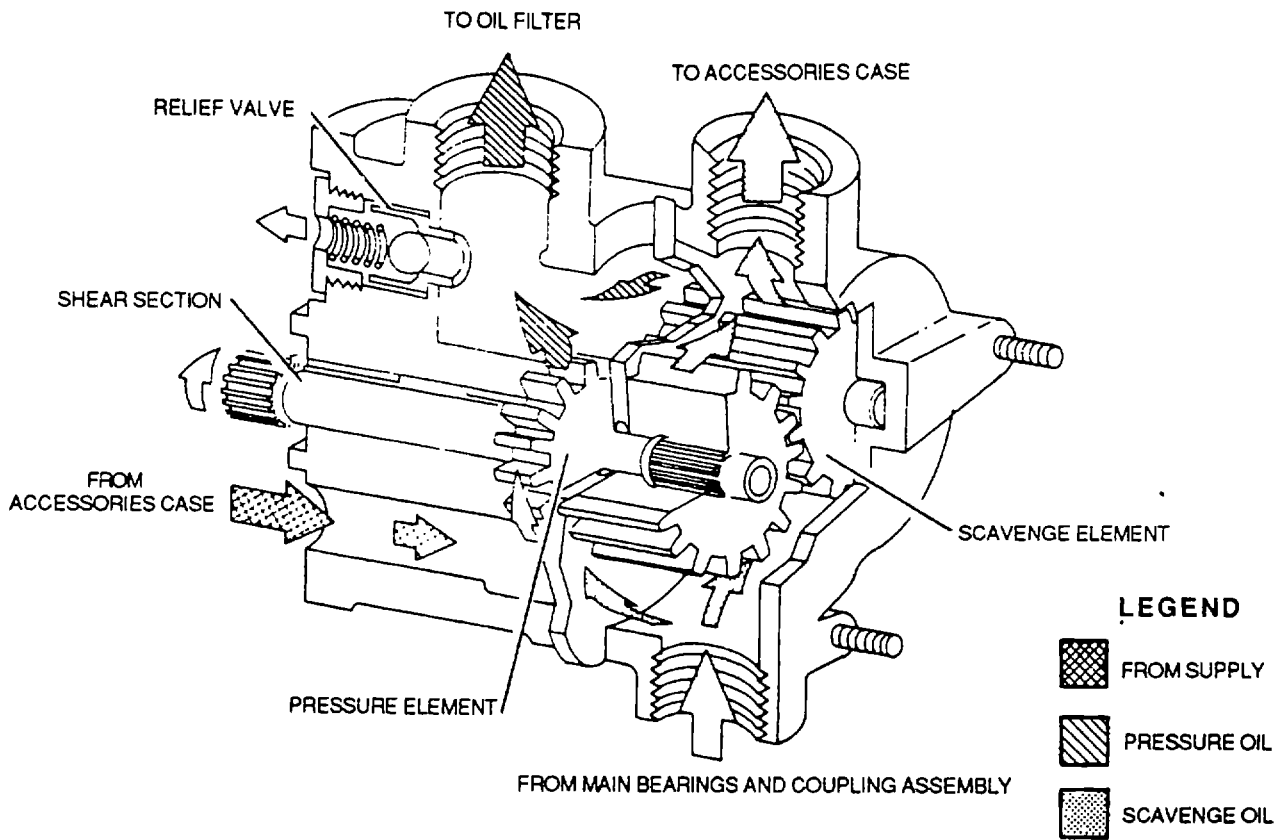

Figure 3-13. Gear-Type Oil Pump
(2) *Oil pumps.* The oil pump is designed to supply oil under pressure to the parts of the engine that require lubrication. The pump may be one of several types. The gear and piston oil pumps are the most common. Each of these pumps has several possible configurations. A gear-type pump is shown in figure 3-13. Maintenance usually consists of removal and replacement.